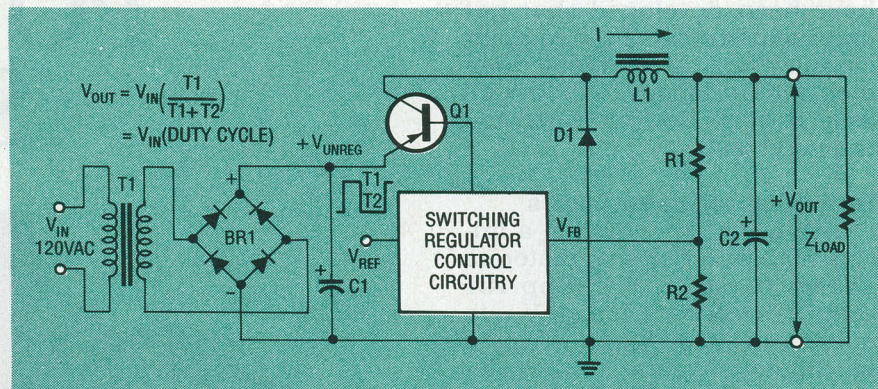
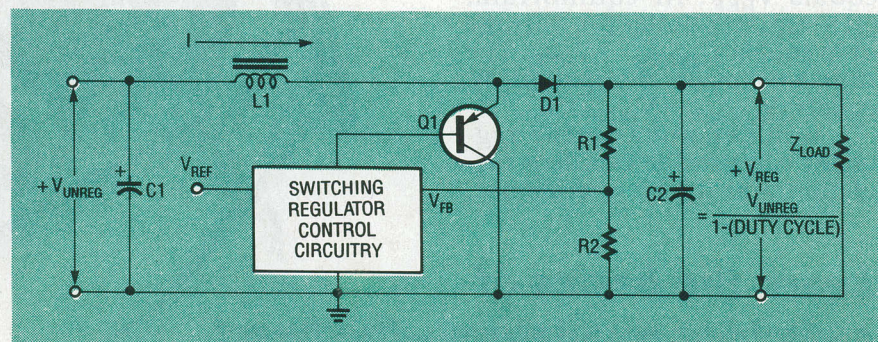
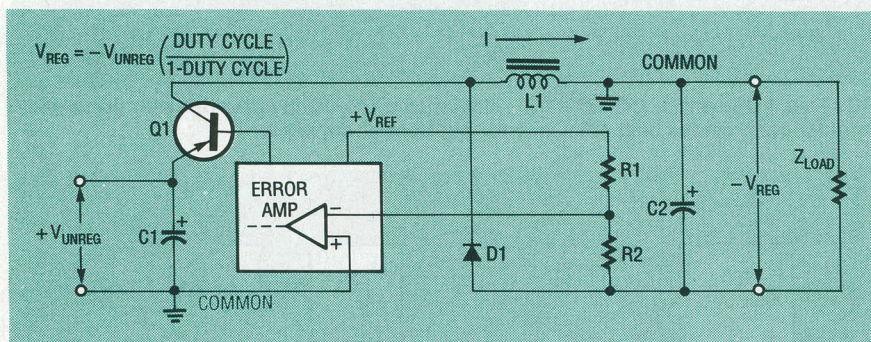
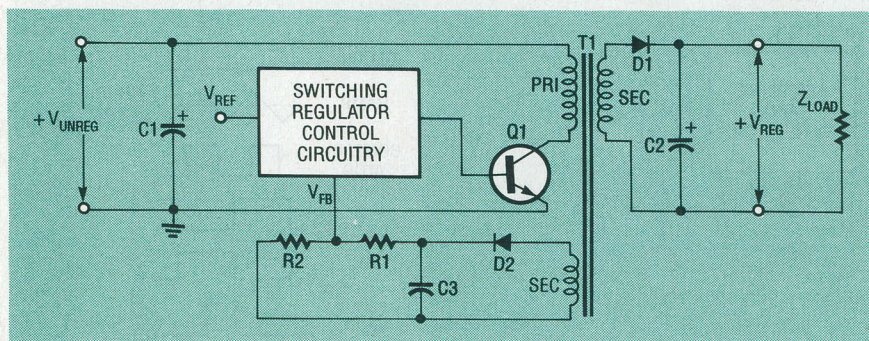

FIG. 3—MOST SWITCHING REGULATORS use L-C filtering to eliminate resistive power losses.
FIG. 4—A FLYBACK, OR "BOOST," converter produces an output voltage higher than its input.
FIG. 6—A "BUCK-BOOST" CONVERTER produces a negative output from a positive input.
FIG. 7—IN A TRANSFORMER-COUPLED flyback converter a separate winding on the transformer allows output regulation while still maintaining input/output isolation.
FIG. 4—AMPLIFIER (a) AND COMPARATOR (b) output waveforms. The comparator converts the amplifier signal into a clipped, quasi-digital 4-volt p-p signal only when the amplitude of the amplifier's signal exceeds the comparator threshold.
To keep the VCP200's input quiet, unless a signal of sufficient strength is present, and to ensure a sharply clipped signal, the output of the amplifier is passed to a comparator, IC1-c. (The fourth op-amp on the LM324A, IC1-d is not used, and its pins are left unconnected.) The comparator's output remains steady unless the input signal swings past its threshold. Input signals of less than 2.5 volts peak-to-peak will be ignored. However, all signals stronger than that will cause the comparator's output to swing from limit to limit, or about 4 volts peak-to-peak, which is within one-half volt of each supply rail. A comparison of the amplifier and comparator output signals is shown in Fig. 4.
**FIG. 7—BASIC POWER DRIVER CIRCUIT** for interfacing the project to motors, lamps, or other high-current devices. The relay must have a 5-volt coil, but can have any arrangement of contacts suitable for the application.
To reduce resistive power losses, switching regulators use L-C, rather than R-C filters, as shown in Fig. 3. When Q1 is on,  $V_{UNREG}$  is applied to inductor L1 and D1 is reverse-biased. The inductive current supplies the load and also charges output capacitor C2.
Figure 4 shows a flyback, or "boost" converter. It operates much like a TV flyback, but with feedback added to control the output voltage. When Q1 is on, an inductive current builds up in L1. When Q1 turns off, the inductive current flows through diode D1, into C2 and the load. Since L1 is supplying current, its output side is positive and its voltage adds to, or "boosts"  $V_{UNREG}$ . The output voltage is, therefore, greater than the input voltage.
The output voltage dividers in Figs. 3 and 4 are designed so that the feedback voltage,  $V_{FB}$ , equals the reference voltage,  $V_{REF}$ , when the output reaches the desired level. If the output voltage goes too high, the error voltage decreases, reducing the duty cy-
Figure 6 shows a "buck-boost" converter which produces a
negative output from a positive input. That circuit is similar to the circuit shown in Fig. 3. In Fig. 6, however, the right side of the inductor is connected to common and the feedback network is different. The name "buck-boost" comes from the fact that the output can be lower or higher than the input.
Primary-to-secondary isolation can be accomplished by using a transformer as shown in Fig. 3. High-power line-frequency transformers, though, are bulky and expensive. Since the pulse-width-modulation circuitry runs at high frequencies, it's often more efficient to transformer-couple and rectify its output pulses.
Figure 7 shows a simple transformer-coupled flyback converter. The control circuit is the same as in Fig. 4, but the inductor has been replaced with a flyback transformer. The on-time primary current builds up flux, which collapses when Q1 turns off. The collapsing field induces voltages in both secondaries, one of which produces the output while the other provides an isolated feedback voltage. Although this is a simple circuit, it still produces a net DC current in the transformer. The output voltage,  $V_{REG}$ , can be expressed as  $V_{UNREG} \times N \times [(Duty cycle) / (1 - (Duty Cycle))]$  where N equals the transformer turns ratio.
The choice among transformerless circuits is often simple. Use the buck circuit (Fig. 3) for voltage stepdown, where the output is lower than the input; the boost circuit (Fig. 4) for step-up; or the buck-boost circuit (Fig. 6) for polarity inversion. All three use the same number of components and have similar control requirements. One performance difference is worth noting: the buck converter tends to have lower output ripple because the inductor aids in filtering the output current.
The flyback converter (Fig. 7) retains the advantages (cost and simplicity) and drawbacks (high peak currents, high ripple, and DC coil current) of a transformer-coupled circuit. It's the best choice when a simple, low-cost circuit is needed to regulate up to tens of watts. Peak switch current,  $I_{PK}$ , of a flyback converter is